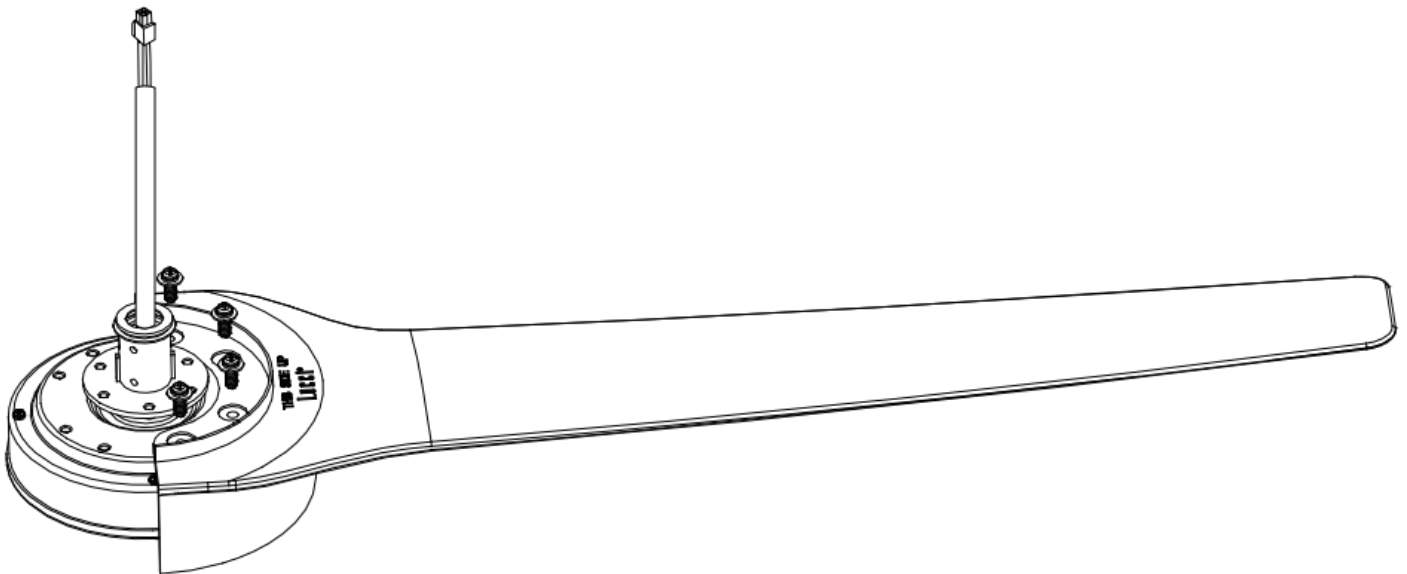

Fig. 4
**INSTALLATION OF BLADE (Fig. 4)**
1. Mount the fan blade onto the fan assembly using four blade screws with lockwashers (supplied in fan parts bag) (Fig.4).